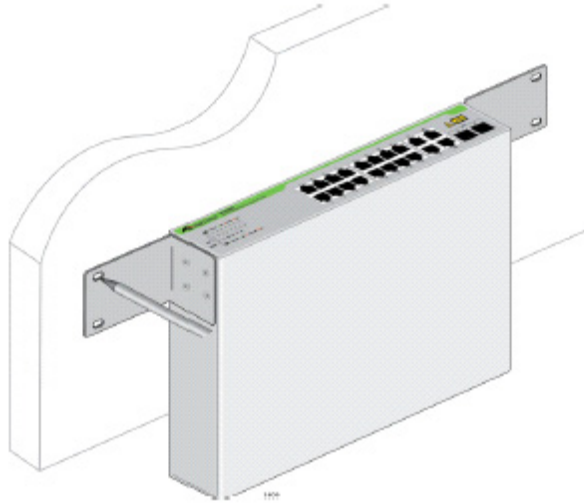

Figure 27. Marking the Screw Hole Locations
6. Have another person hold the switch with the brackets at the wall location where the switch is to be installed, while you use a pencil to mark the wall with the locations of the four holes in the brackets. See Figure 27.